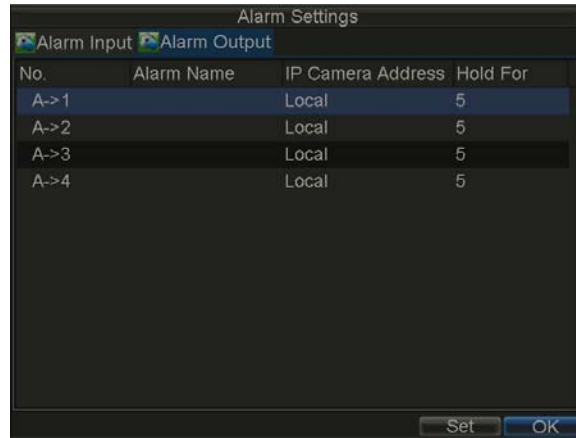

Figure 11. Alarm Output Interface
1. Select the **Alarm Output** tab. This will bring up the Alarm Output interface, shown in Figure 11.